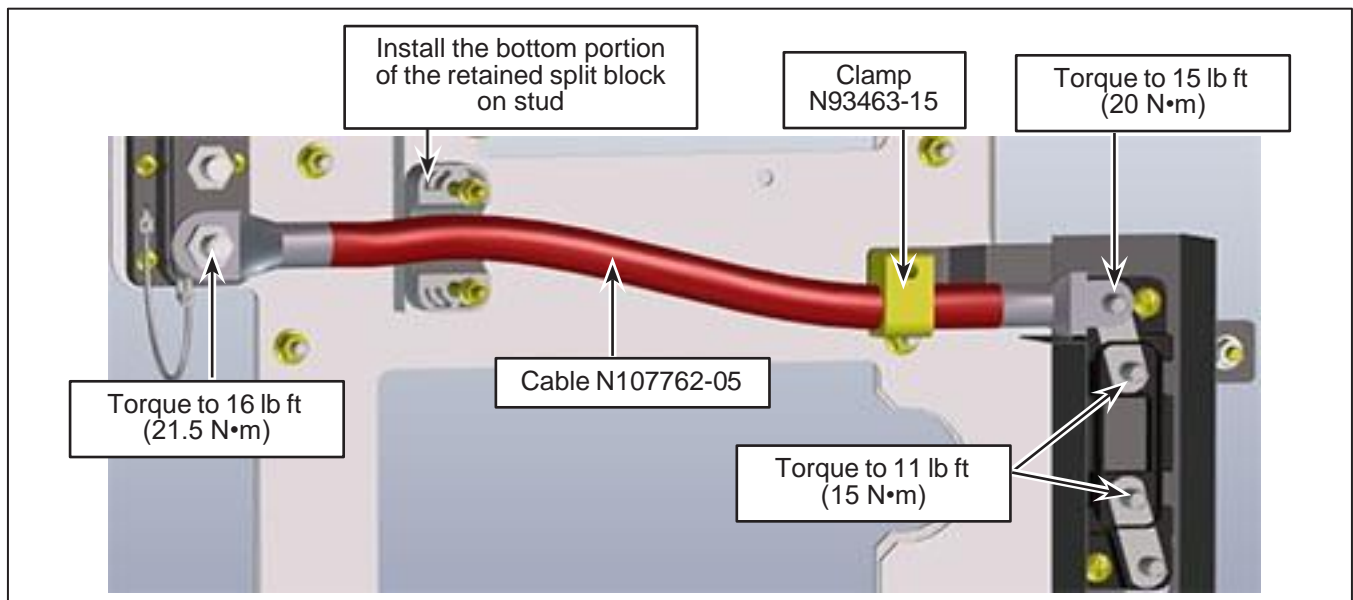

Figure 9 - New Cable N107762-05 Installation
- 1.26. Install the fuse N47759-250 in the fuse holder using the retained M8 nuts. See Figure 9 for torque value. Do not apply torque seal at this step.
- 1.27. Install the bottom portion of the retained split block on the stud. See Figure 9
- 1.28. Install clamp N93463-15 on the new cable N107762-05 and connect the cable to the junction block and the fuse holder N84769. See Figure 9 for required parts and torque value. Do not apply torque seal at this step.